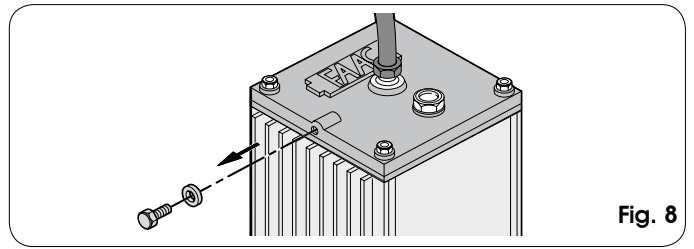

Fig. 8
- 3) Remove and store the breather screws as shown in Fig.8.
- 1) Make sure that the breather screw has been eliminated (Fig.8)
4. Screw the breather screw on the control unit (Fig. 8).
11. Remove the breather screw from the control unit (Fig.8) and carry out the air bleed operations as indicated in paragraph 8.2.